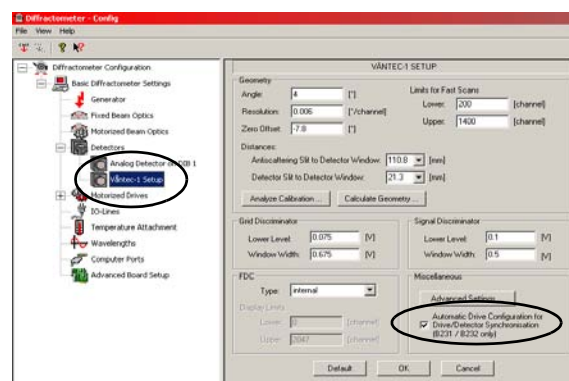

Figure 4.12 - Activation of the Automatic Drive Configuration
1. Open the Configuration software and select the **Vântec-1 Setup** window (Figure 4.12).
1. Make sure that the Automatic Drive Configuration is disabled by unchecking the checkbox in Figure 4.12.